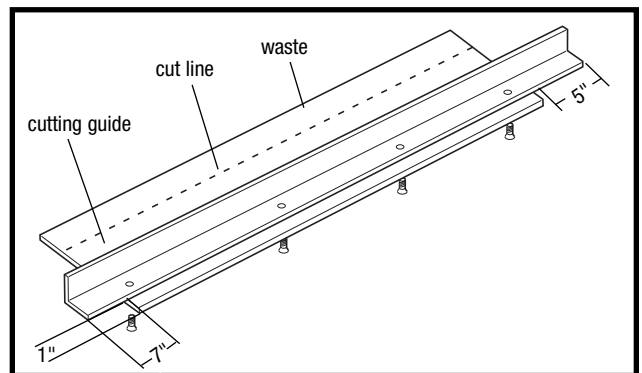

fig. 11 - Making a Cutting Guide
- Position the fence so that the guide extends about 1" past the back of the fence. (See fig. 11).
- Use four (4) flat head 1/4" x 1" bolts (with washers, lock washers and nuts – not included with the system) to bolt the guide securely to the fence.